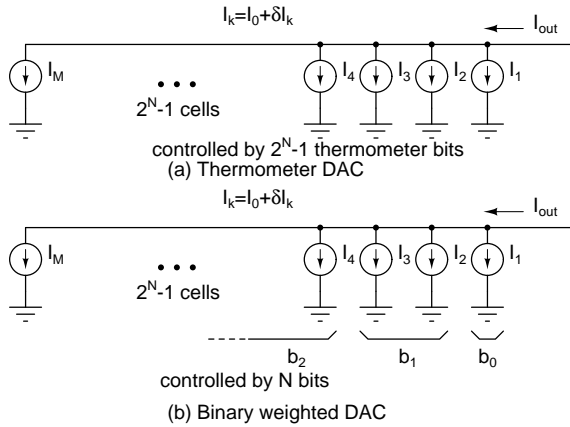

Figure 2:
2. An 8 bit thermometer coded DAC is realized as shown in Fig. 2(a). Relate the standard deviation of the DNL to the standard deviation  $\sigma_{I_0}$  of the relative error in each current source  $\delta_{I_k}/I_0$ . Find  $\sigma_{I_0}$  such that the standard deviation of DNL is 0.1 LSB.
An 8 bit binary weighted DAC is realized as shown in Fig. 2(b). It consists of 255 current sources. Input bit  $b_k$  controls  $2^k$  current sources. The standard deviation  $\sigma_{I_0}$  of the relative error in each current source  $\delta_{I_k}/I_0$  is the same as in the thermometer coded DAC in the previous problem. How does the INL of this DAC compare to the INL of the thermometer coded DAC? How about the DNL? Calculate the standard deviation of the DNL at the following code transitions: a) 01111111 to 10000000, and b) 00111111 to 01000000